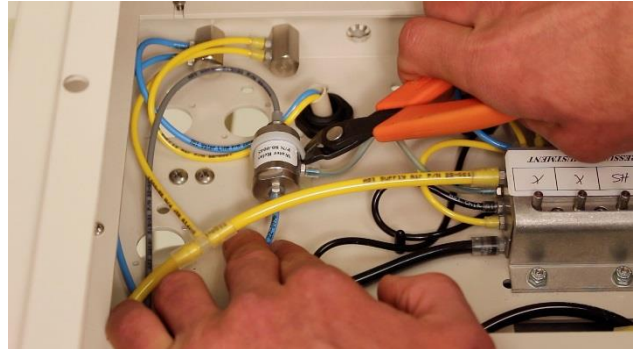

Fig. 3
4. Cut existing zip tie. (Fig. 3)